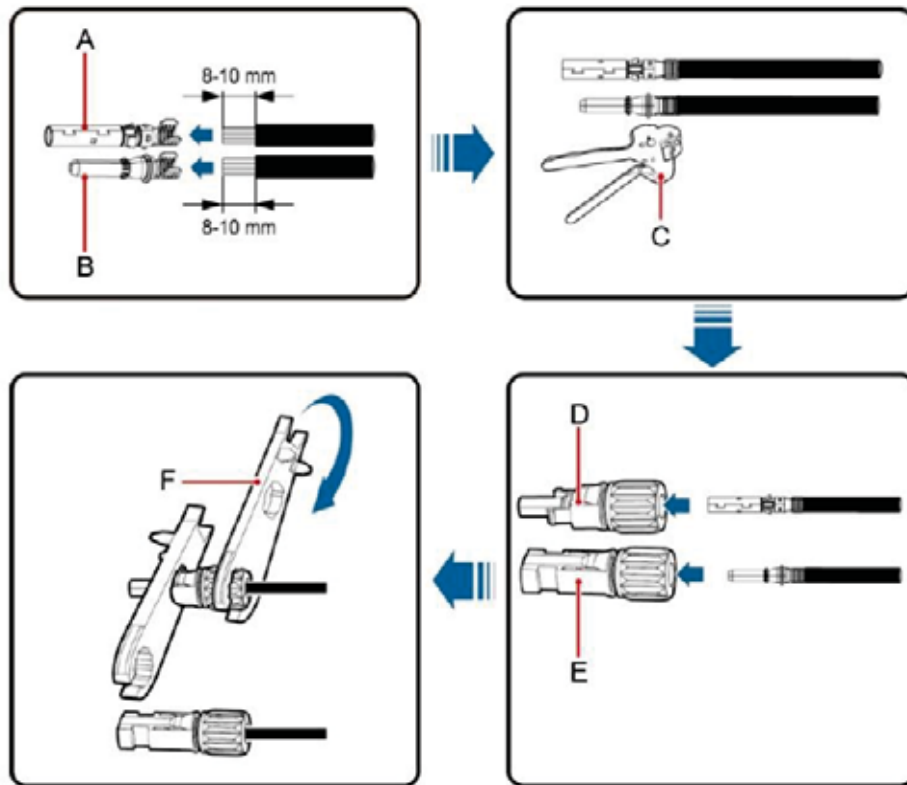

Figure 4.11 Connection between DC connector and solar modules
- (1) Lighting, short-circuit and other protection measures which meet the local electrical safety laws and regulations are needed before the AC connection.
- (2) Connect the output cables of solar modules to the DC connector as figure 4.11 shows. Remove the isolation layer of the DC cable for about 8-10mm. Insert the conductor part into the appropriate position of the connector, crimp the MC4 DC terminal and tighten the nut with a torque of 2.5-3Nm. The wiring of negative pole is the same as that of the positive pole. Ensure the poles of solar modules are well connected with the connectors;